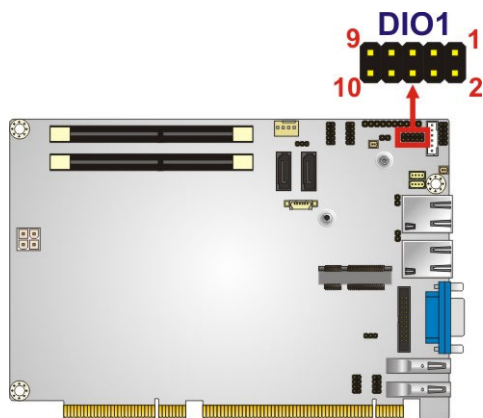

Figure 3-9: Digital I/O Connector Location
- CN Location:** See **Figure 3-9**